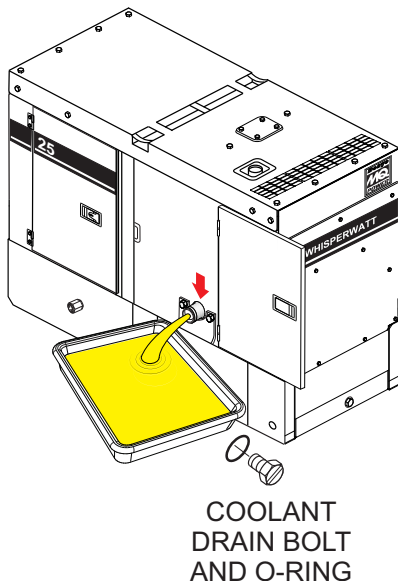

Figure 72. Draining The Engine Coolant
2. Open the cabinet door and remove the **coolant drain bolt** and **O-ring** (Figure 72), then allow the coolant to drain into a suitable container.